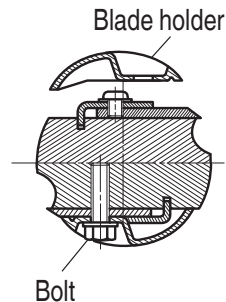

Fig. 22
- (2) Place the blade holder on the completed assembly, as shown in **Fig. 22**, and fasten it with the three bolts. Ensure that the bolts are securely tightened.
- (3) Turn the cutter block over, and set the opposite side in the same manner.